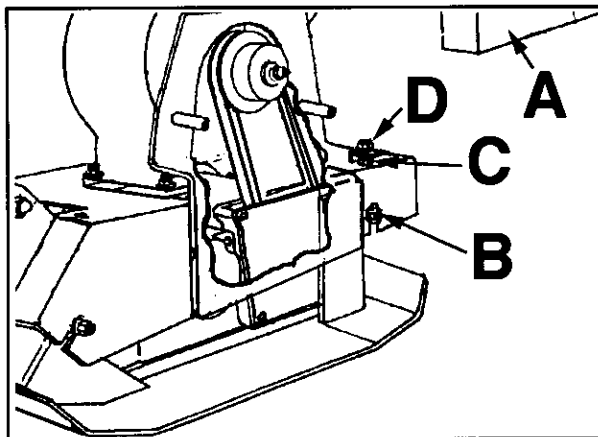

Figure 13-2 - V-Belt Tension/Alignment Adjustment.
1. Remove the belt guard cover 'A', refer Figure 13-2
2. Loosen the front mounting bolts 'B', refer Figure 13-2.